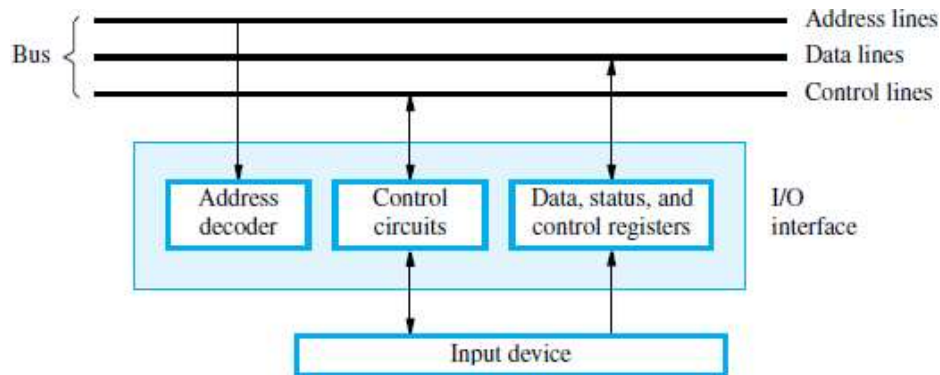

Figure 7.2 I/O interface for an input device.
- 1) Address Decoder:** enables the device to recognize its address when this address appears on the address-lines (Figure 7.2).